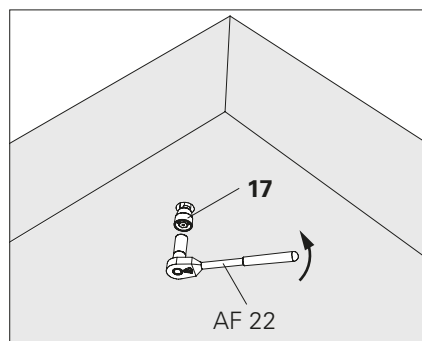

Fig. B1.02
3. Unscrew Threaded Cone M24/40 mm (17) from the anchor sleeve using a ratchet wrench and socket AF 22.
- (Fig. B1.02)